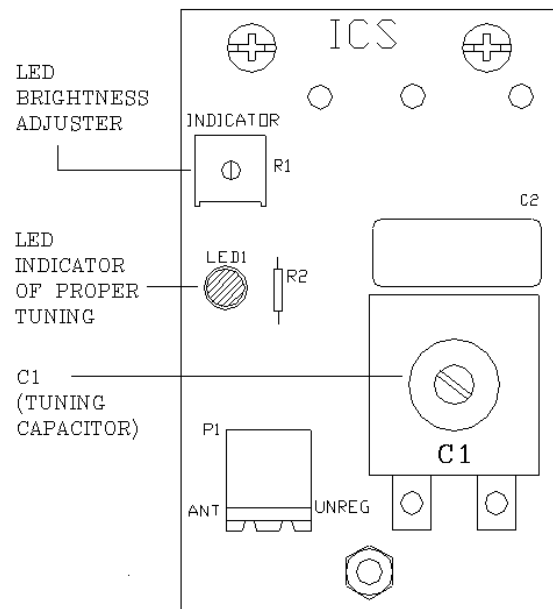

Figure 4.11 Tx wand antenna PCB
- On the antenna, adjust C1 until LED1 is as bright as you can make it (Figure 4.11).
6. On the antenna, adjust C1 until LED1 is as bright as you can make it (Figure 4.11).
10. On the “Y” antenna, adjust C1 until LED1 is as bright as you can make it (Figure 4.11).
6. On the “X” antenna, adjust C1 until LED1 lights *brightly* (Figure 4.11). **NOTE:** The object here is to use the brightness of LED1 to show when C1 has been adjusted properly. Therefore, if you try to see a change with LED1 set too bright you may miss that change and be slightly off tune. If this is the case, on the antenna, turn pot R1
10. On the “Y” antenna, adjust C1 until LED1 lights *brightly* (Figure 4.11).
14. On the “Z” antenna, adjust C1 until LED1 lights *brightly* (Figure 4.11).
To tune a Tx wand antenna, refer to Figures 4.11, and use the following instructions: